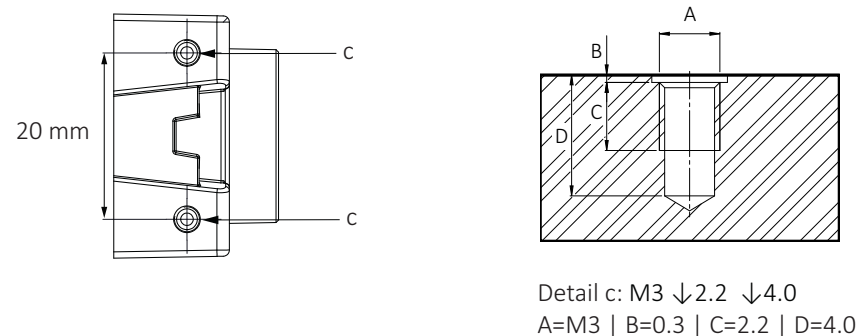

Figure 72: Top and bottom and mounting threads (c)
1. Mount the camera to the base using suitable M3 screws at 0.51 Nm maximum torque for a thread engagement (C) of 2.2 mm between screws and mounting threads, see Figure 72. For technical drawings, see Dimensions and mass on page 158.